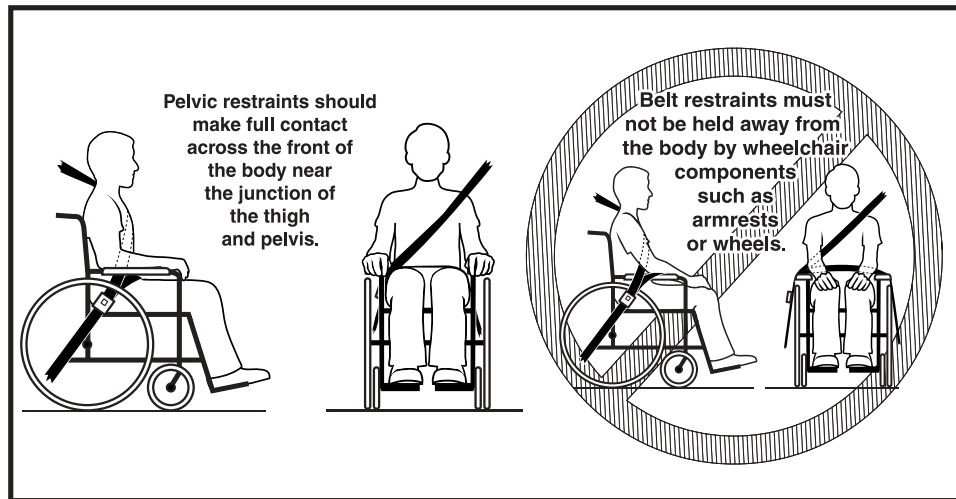

Figure 6. Proper Pelvic Belt Placement
- Some wheelchair components, like armrests and wheels, can interfere with proper belt fit. It may be necessary to insert the belt between the armrest and the seatback or through openings between the backrest and seat in order to avoid placing the pelvic belt over the armrest. See figure 6.